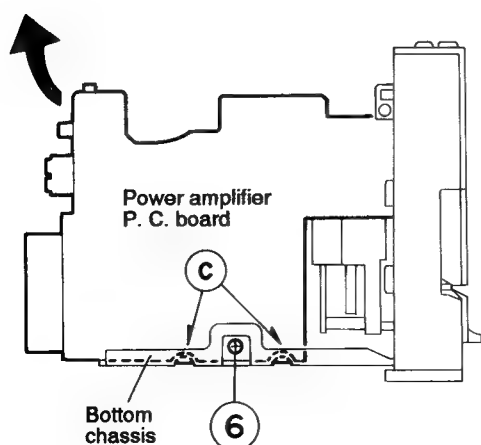

Fig. 5-10
7. Remove the one screw ⑥ retaining the power amplifier P. C. board (See Fig. 5-10).
9. After removing the power amplifier P. C. board from the key way ③ on the bottom chassis, take this P. C. board out while raising it in the arrow direction (See Fig. 5-10).